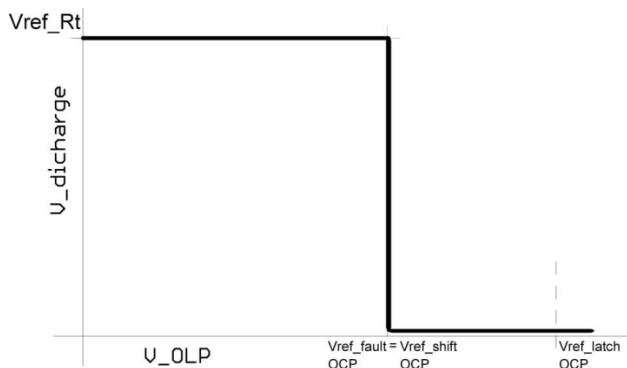

Figure 38. OLP to Discharge Pin Transfer Characteristic
2. The second overload protection mode is activated additionally to the first one i.e. when the OLP pin voltage exceeds 1 V. The frequency shift is implemented via Rt and Discharge pins in this case by pulling the discharge switch down from Vref_Rt to ground – refer also to Figure 38 for Vdisable evaluation with OLP input voltage. The Discharge pin is connected to the Rocp and Cocp network, that is present on the Rt pin, via resistor Rshift. This configuration allows to adjust OCP frequency shift depth and reaction time and thus ease overload system implementation in any application.